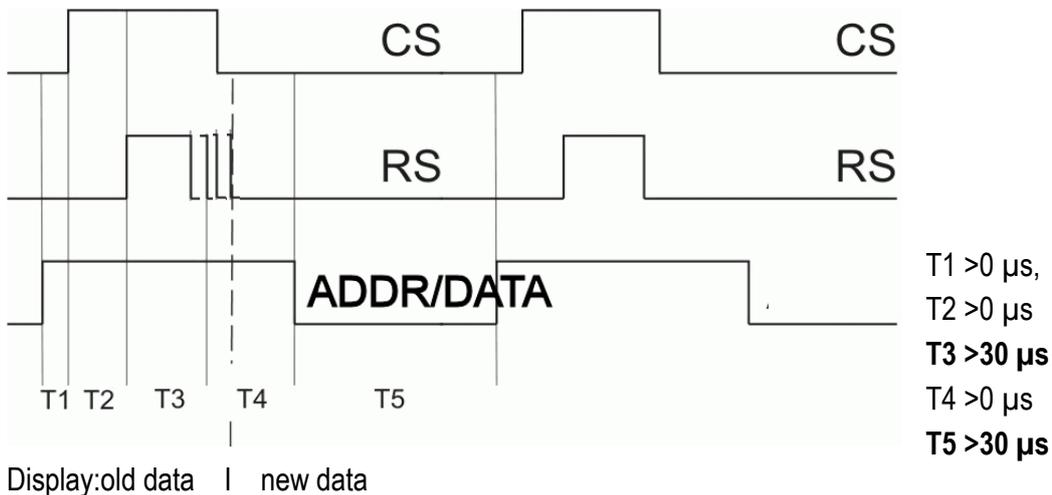

Figure 2
The data at the input are displayed in decimal format. This requires the **CS** signal (Chip Select) to be activated. As soon as the data and the address signals are stable, the read and display cycle is triggered by the rising edge of the **RS** (Register Select) signal. Refer to figure 2. The new data appears on display when both signals, **CS** and **RS**, are low.
- Hold signals D and AD stable and apply the control signals CS and RS as described in figure 2.
- apply control signals CS and RS as described in figure 2.
- “%” = apply control signals CS and RS as described in the figure 2.